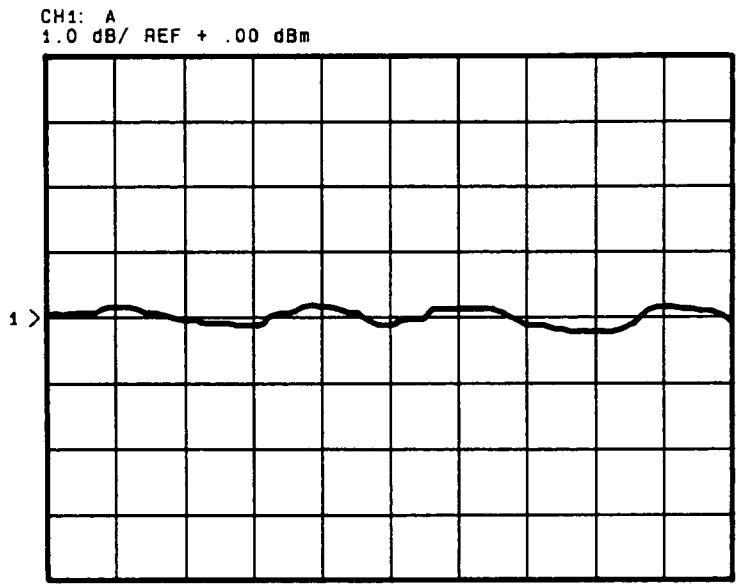

Figure 5-21. Trace after Adjustment
66. After you perform the adjustments, the response should resemble Figure 5-21.